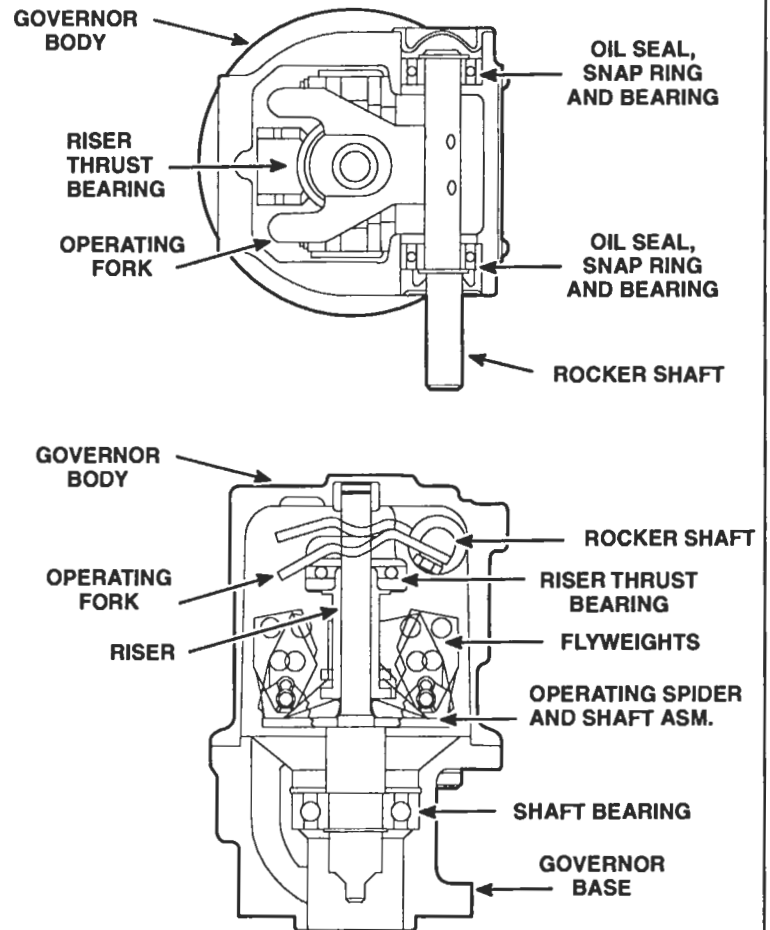

Figure 3. Governor Cross-Section
1. Remove the two socket head screws (Figure 3.) and lock washers that secure the speed adjusting shaft bracket to the governor body. Unhook the speed adjusting spring from the speed adjusting spring lever and the spring lever while removing the bracket.